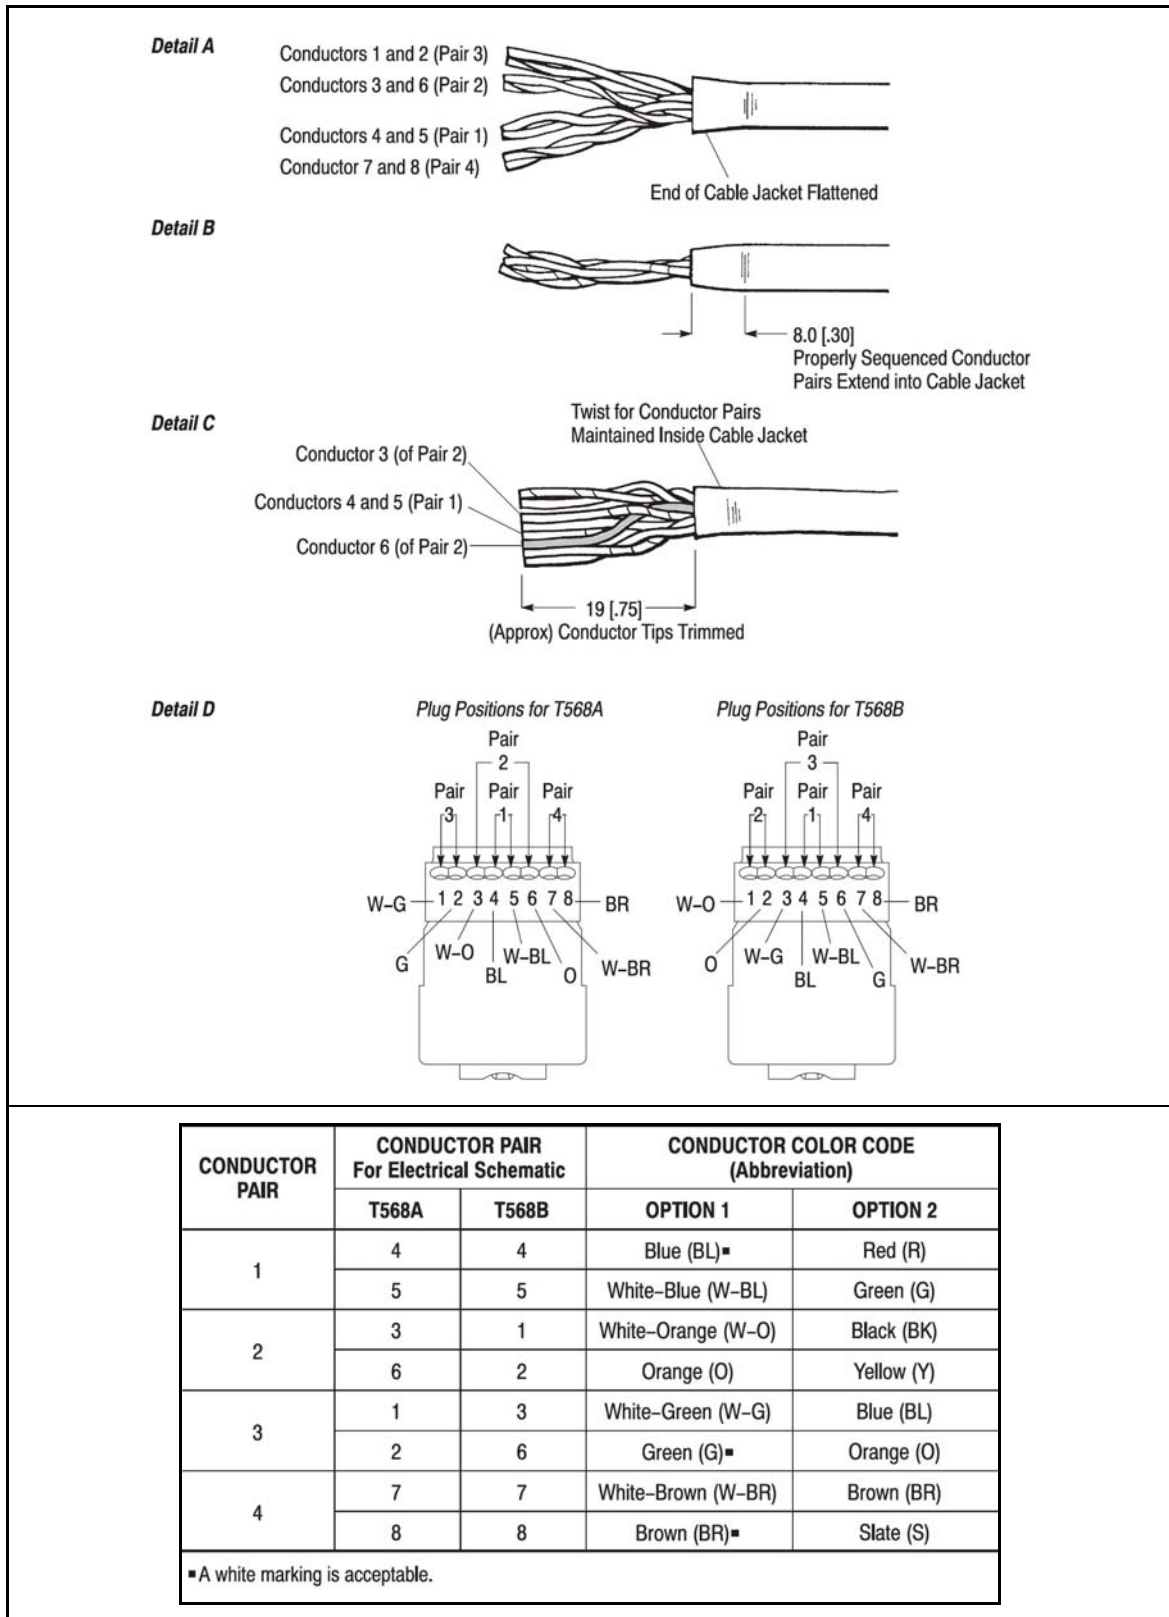

Figure 11-3: Cable Preparation Continued
3. Conductor pairs must be oriented side-by-side in the order shown in Figure 11-3, Detail A. The end of the cable jacket must be flattened so that the conductor pairs lay side-by-side.
4. Properly sequenced conductor pairs should extend into the cable jacket to the dimension given in Figure 11-3, Detail B, creating an oblong shape.
5. The conductor tips must be trimmed evenly to the dimension shown in Figure 11-3, Detail C. Proper orientation of conductors must be maintained.
6. The conductor pairs must be untwisted and arranged according to EIA/TIA T568A or T568B (defined in Figure 11-3, Detail D). IT IS CRITICAL that the pairs are NOT untwisted inside the cable jacket.
When arranging conductor pairs, IT IS IMPORTANT that Conductor 6 be crossed over Conductors 4 and 5 as shown in Figure 11-3, Detail C.